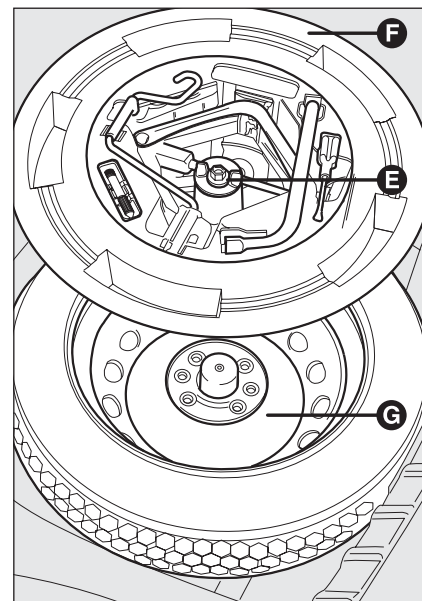

fig. 10
- ☐ Stow the space-saver spare wheel **G**-fig. 10 in the space provided in the boot;